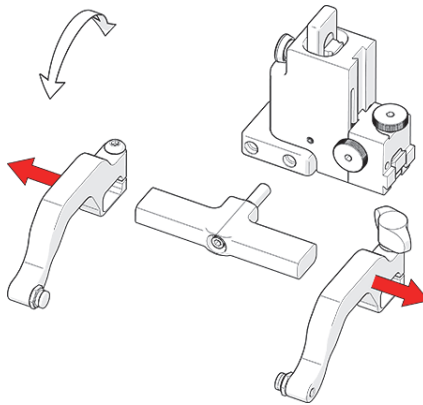

Figure 3-29 Remove probe holder arms
3. Loosen the arm clamp screw and the probe holder arm adjustment knob, and then remove the probe holder arms (see Figure 3-29 on page 56).